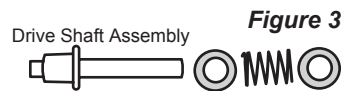

Figure 3
4. Equip the round end of the **Drive Shaft** with a **Metal Washer, Spring** and a **Metal Washer**. (figure 3).